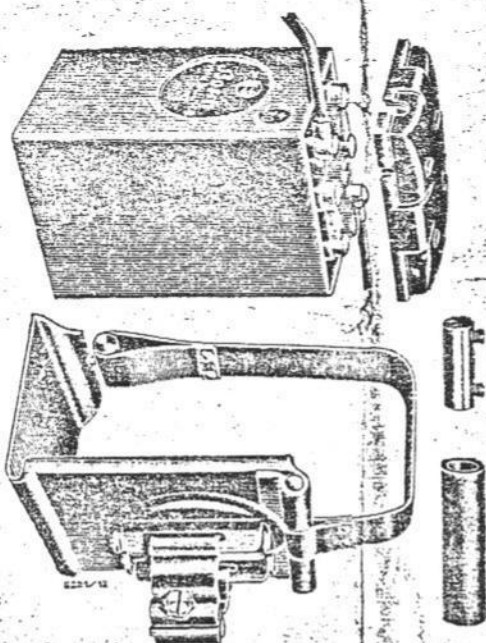

Fig. 7. Battery BGD 312 with battery carrier and cable connector
1) Battery BGD 312 (Fig. 7)
The positive cable (30) is connected by a socket (Fig. 7) with the cable running from terminal 51 on the dynamo. This socket is protected against earthing by a rubber sleeve.